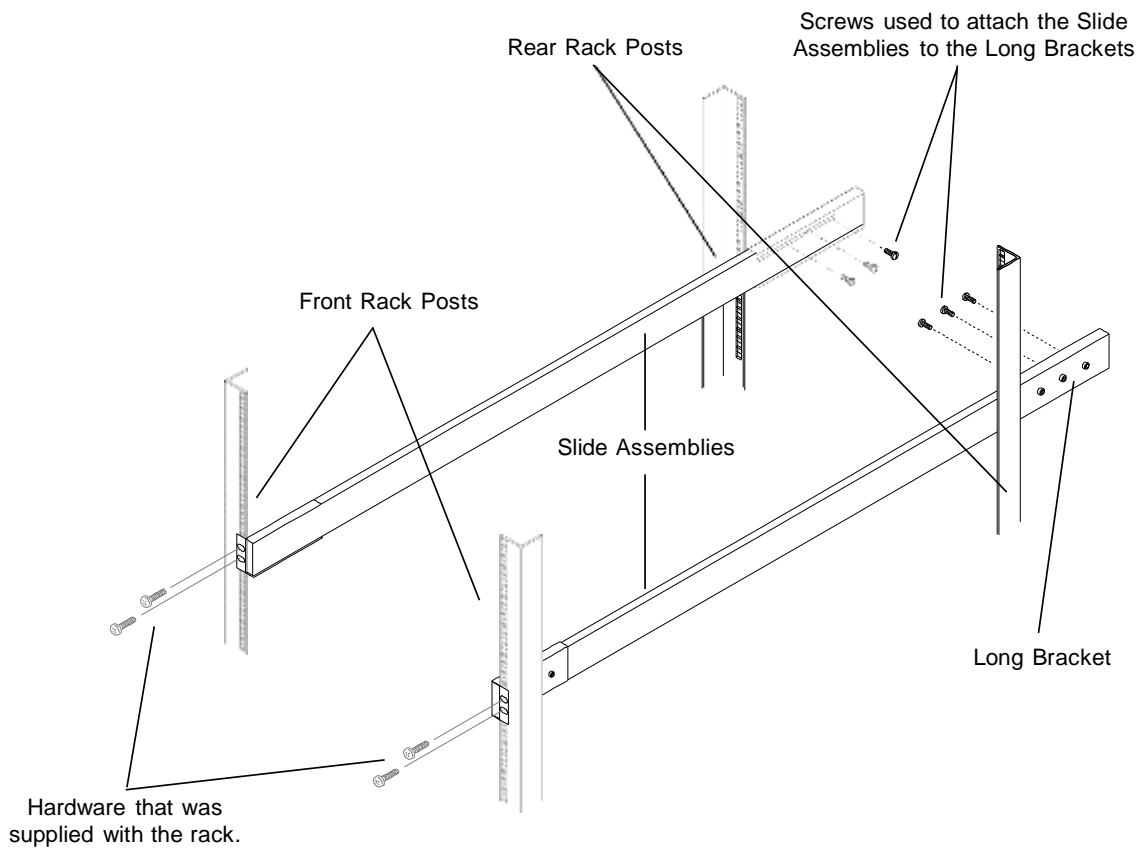

Figure 5-24 Slide Assemblies Being Attached to the Front Rack Posts and Long Brackets
4. Position a slide assembly so that the short mounting bracket is touching the outside of the front rack posts and the holes in its bracket align with the mounting position chosen in step 1. Make sure that the mounting bracket tabs are facing towards the outside of the rack and using the hardware that was supplied with the rack, attach the slide assembly to the rail. Repeat for the remaining slide assembly. See Figure 5-24.